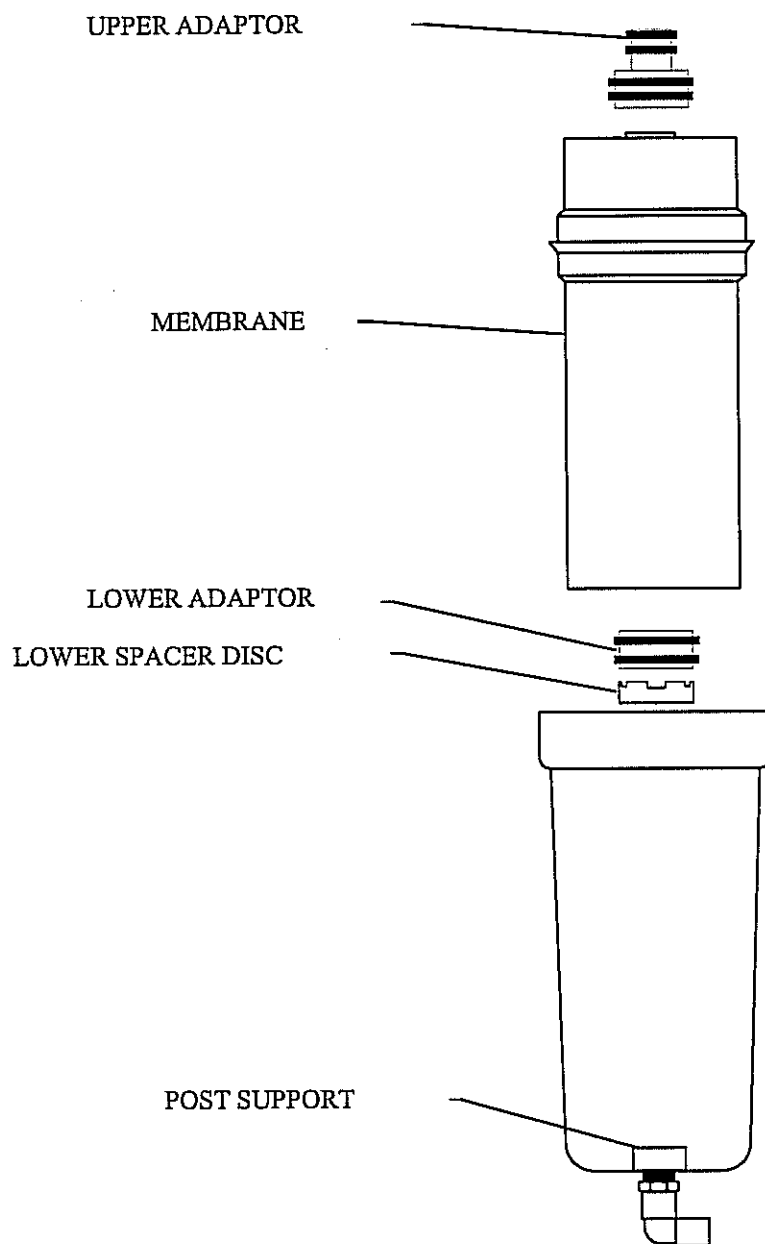

Figure 7
- (1) Install Prefilter, P/N 90210, in first bowl (the bowl on the left side).
- (2) Install Carbon/Prefilter, P/N 90072 in second bowl.
- (3) Remove the tubing from the connector in the bottom of the third bowl by pressing the gray collar back towards the connector and pulling the tubing straight out. (See Tubing Installation)
- (4) With the Spanner Wrench supplied, remove the third bowl from the unit.
- (5) Center the lower spacer disk over the support post in the bottom of the bowl. For ease of installation of the lower spacer, center a long tube and drop the disk over it. **NOTE:** Orient the disk in the bowl so that the slots are upward. (See Figure 7).
- (6) Install the lower adaptor into the bottom of the RO membrane by pushing it until it seats firmly.
- (7) Install the upper adaptor in the top of the RO membrane by twisting while pushing until it seats firmly.
- (8) Place the Reverse Osmosis membrane in the bowl such that the upper adaptor is in the top of the bowl.
- (9) Thread the bowl in the system.